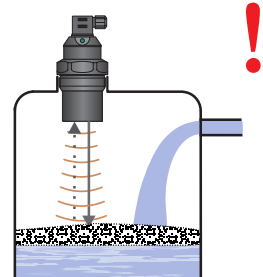

Fig. 10: Thick foam on the surface
- Foam may be produced on the surface of the measured liquid during filling, mixing and other processes. The thick foam significantly absorbs the ultrasound signal and may cause malfunction of the device (Fig. 10). In those cases it is necessary to test the device in advance or contact the manufacturer. In case of a thin layer of foam, it is also possible to use directional horn for improving receipt of the reflected echo.